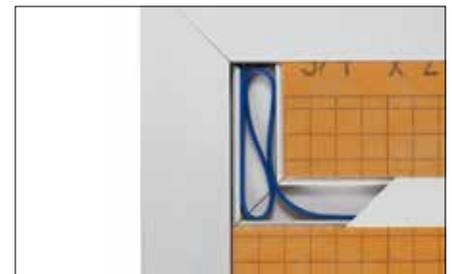

Fig. 1
2. A sufficient amount of cable length should be fed as a reserve length, into the cavity of the cable conduit, if possible, as a loop. This will allow for access later to the LED strips. (Fig. 1).